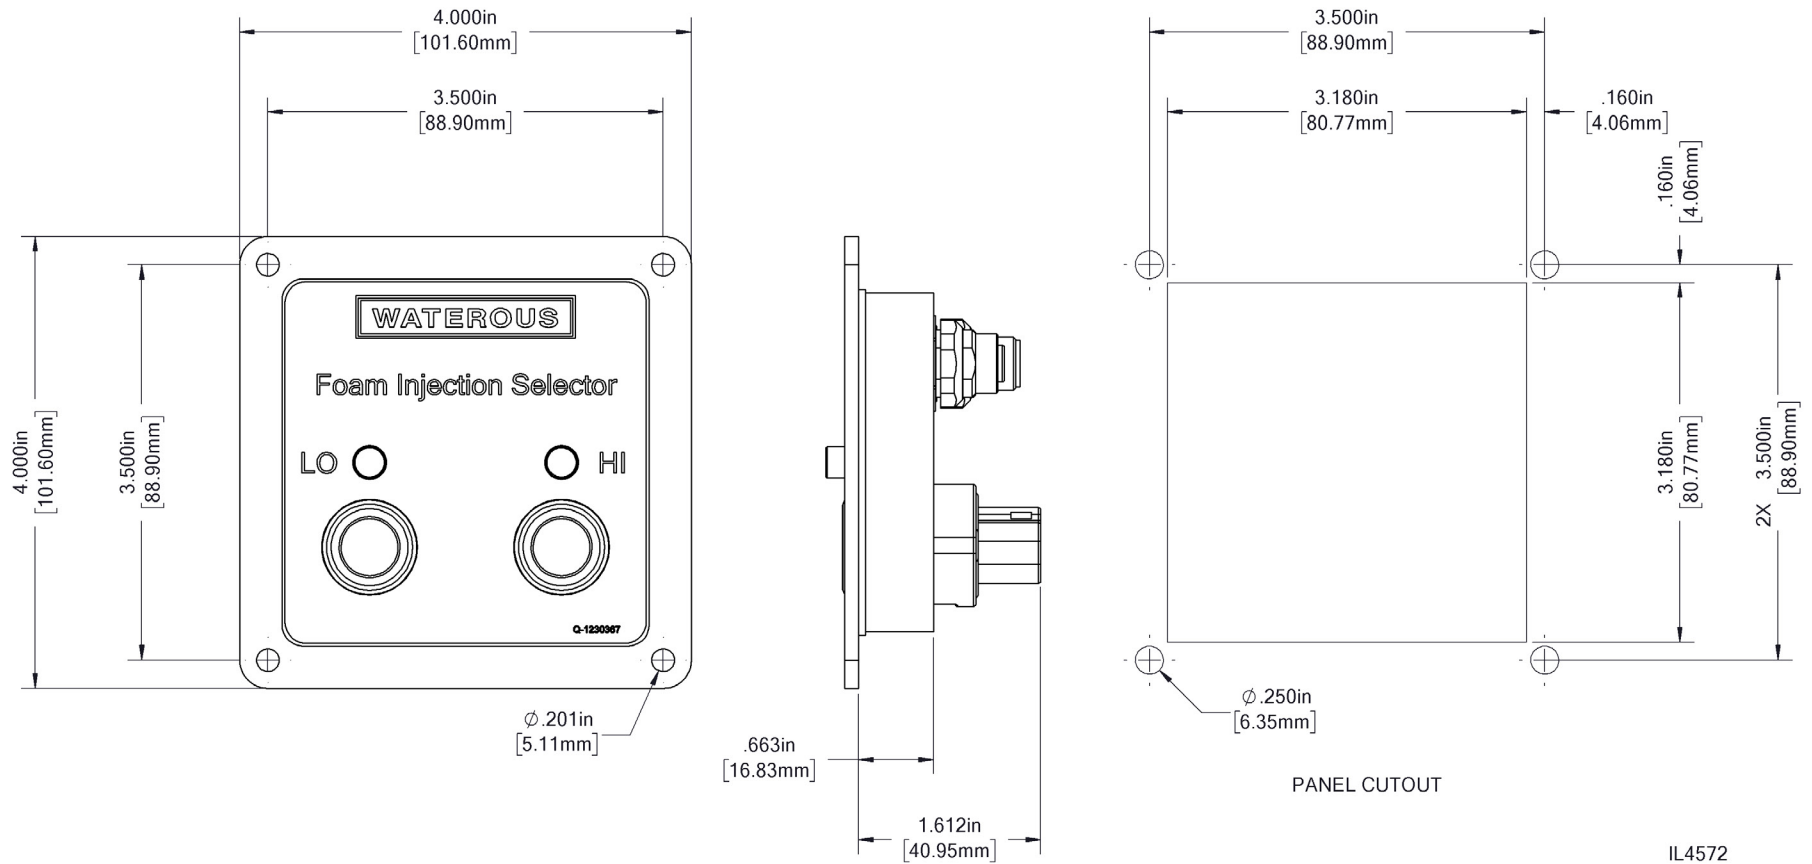

Figure 6
- 7 Mounting holes—Installer located and drilled. Refer to: **"Determining the Selector Panel Location"** on page 10 and **"Figure 6"** on page 11
- 8 Panel cutout—Installer located and cut. Refer to: **"Determining the Selector Panel Location"** on page 10 and **"Figure 6"** on page 11